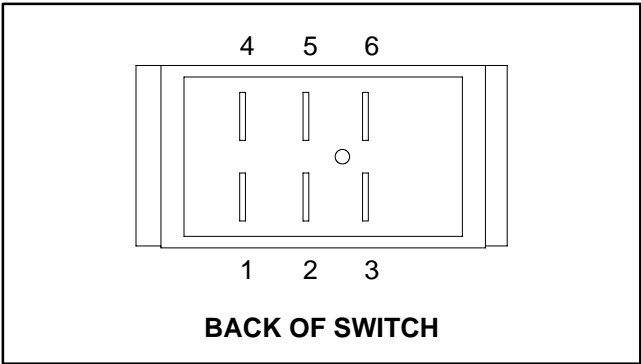

Figure 34
4. The switch terminals are marked as shown in Figure 34. The circuit logic of the wiper/washer switch is shown in the chart below. With the use of a multimeter (ohms setting), the switch functions may be tested to determine whether continuity exists between the various terminals for each position. Verify continuity between switch terminals. Replace wiper/washer switch if testing identifies a faulty switch.